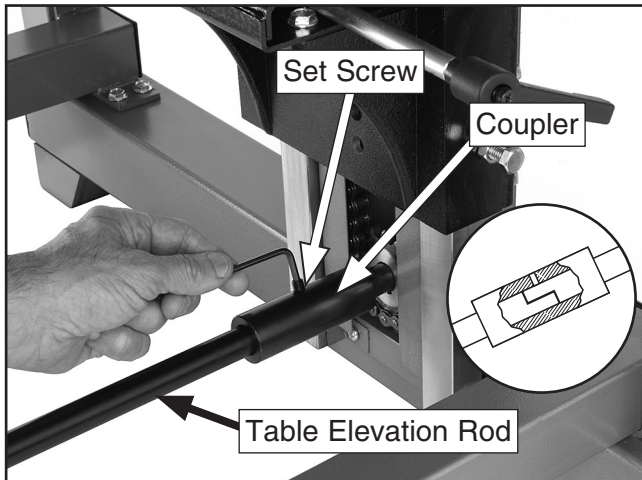

Figure 15. Table elevation rod.
5. Connect the table elevation rod to the left and right side elevation assemblies. Place the notch in the end of the rod against the notch in the shaft at the base of the elevation assembly, slide the coupler over the joint, then tighten the set screw, as shown in **Figure 15**.